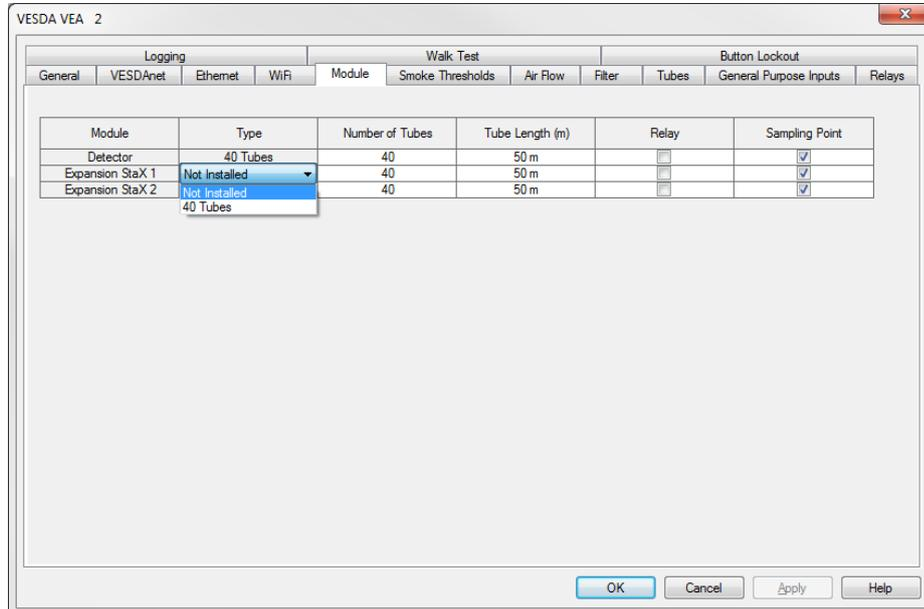

Figure A-19: Module Configuration
- Set list of expected Expansion StaX modules in the detector configuration options using Xtralis VSC (Figure A-19). Refer to Section 5.5.5 on page 66 for further information.